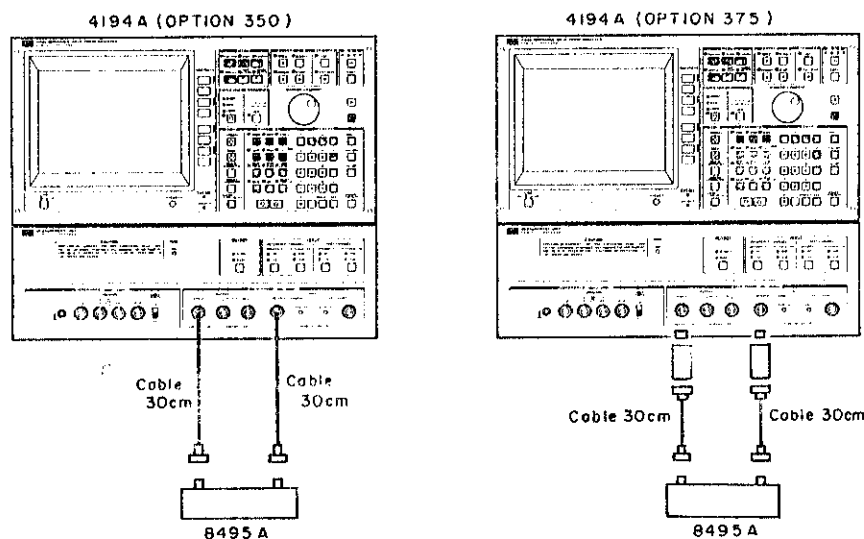

Figure 4-23. Gain-Phase Measurement Signal Level Test Setup 3
1. Set up the equipment as shown in Figure 4-23.